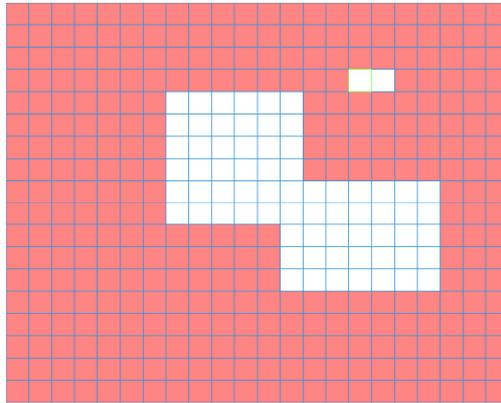

Figure 4-59
- Region: Click select button, the interface is shown as in Figure 4-59. Here you can set motion detection zone. There are 396(PAL)/330(NTSC) small zones. The green zone is current cursor position. Grey zone is the motion detection zone. Black zone is the disarmed zone. You can click Fn button to switch between the arm mode and disarm mode. In arm mode, you can click the direction buttons to move the green rectangle to set the motion detection zone. After you completed the setup, please click ENTER button to exit current setup. Do remember click save button to save current setup. If you click ESC button to exit the region setup interface system will not save your zone setup.
In Figure 4-59, you can left click mouse and then drag it to set a region for motion detection. Click Fn to switch between arm/withdraw motion detection. After setting, click enter button to exit.